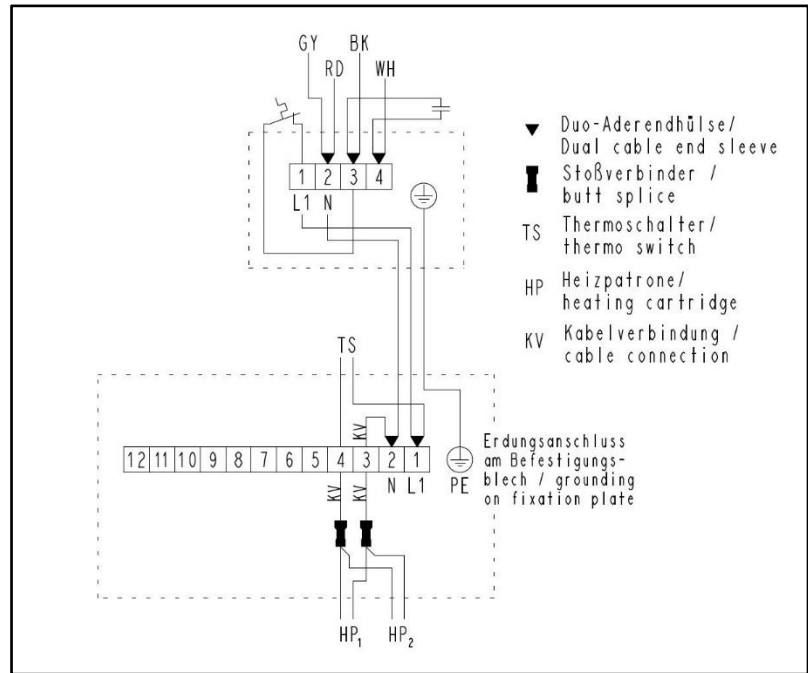

Fig. 7: Electrical connection .11-designs
5. Connect the mains cables to the connections L1 and N of the luster terminal (see Fig. 7).